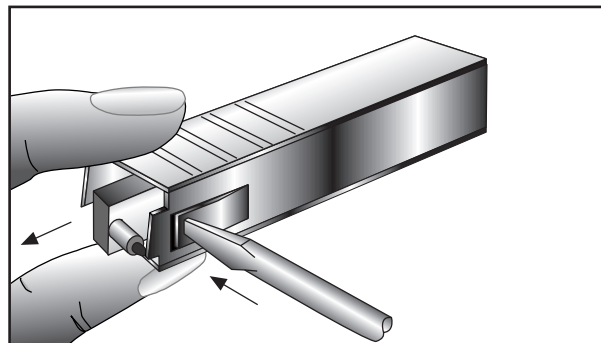

Figure 2-14. Pen Removal
3. With a screwdriver in one hand, push on the rectangular area of the pen shown in Figure 2-14. Using the other hand, release the pen from the spring clip attached to the pen holder.